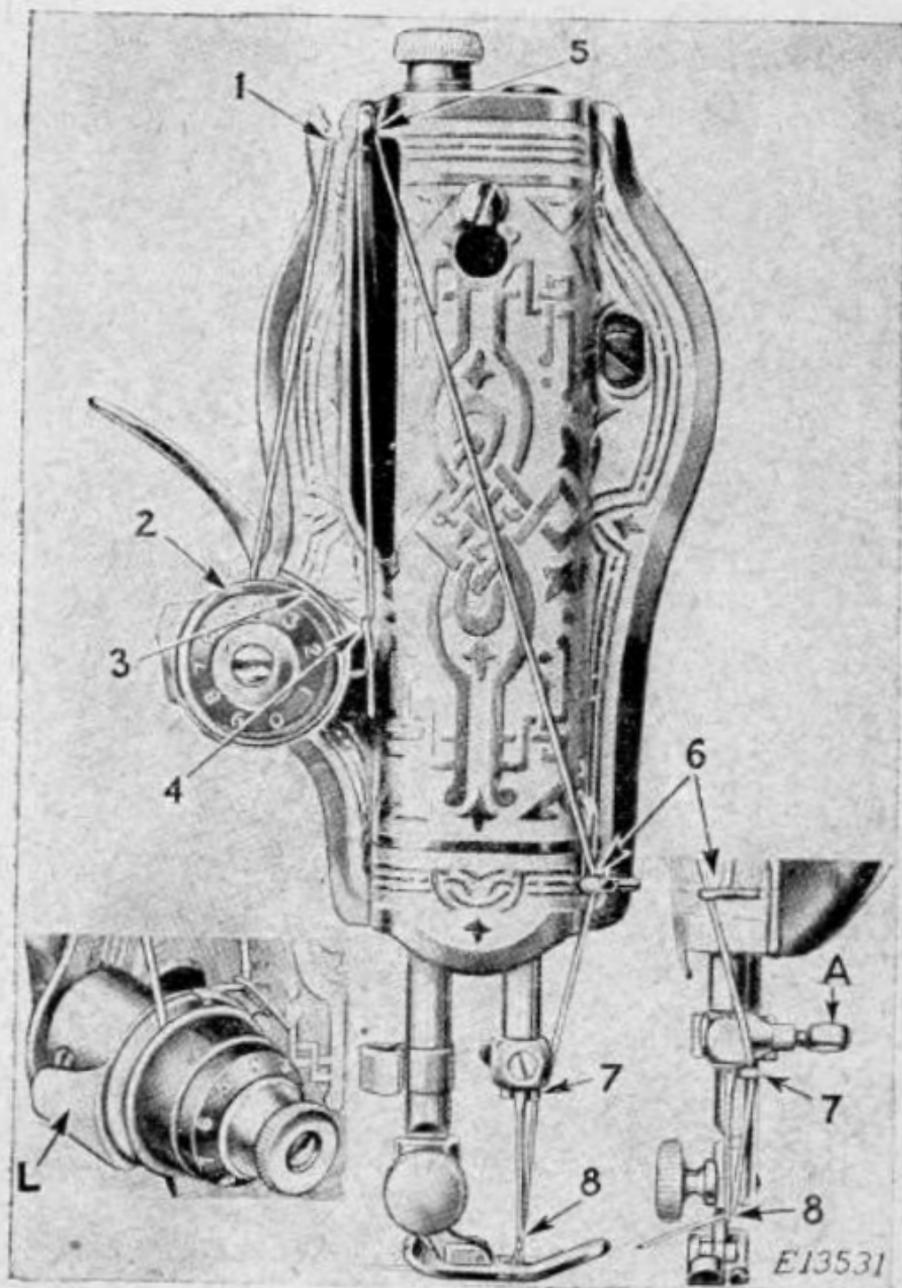
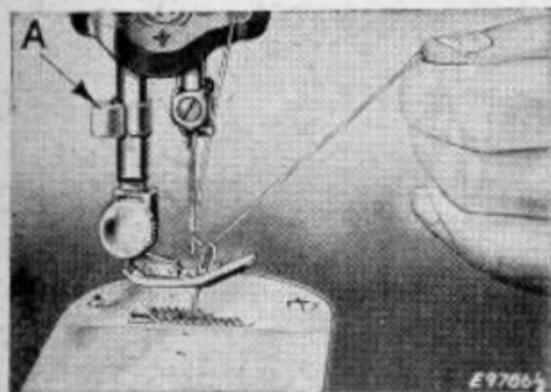
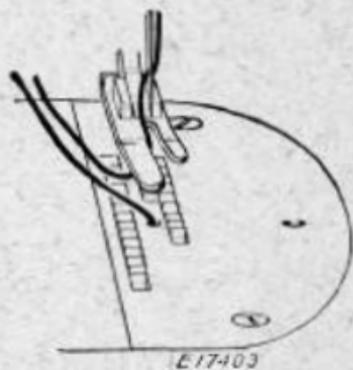

FIG. 12. UPPER THREADING
FIG. 13. DRAWING UP BOBBIN THREAD
FIG. 13A. THREADS IN POSITION TO COMMENCE SEWING
Turn the balance wheel over toward you until the thread take-up lever (5, Fig. 12) is raised to
(SEE FIG. 12)
Turn the balance wheel over toward you until the thread take-up lever (5) is raised to its highest position. Place the spool of thread on the spool pin at the top of the machine and pass the thread to the left through the thread guide (1) at the rear of the face plate, down, under and from back to front between the tension discs (2), the thread guard (L) guiding the thread between the discs. (See insert in Fig. 12). With the right hand hold the spool to prevent it from turning, and with the left hand draw the thread up into the take-up spring (4) until the thread enters the retaining fork (3), then pass the thread up and from back to front through the hole in the thread take-up lever (5), down through the guide (6) on the face plate, into the guide (7) on the needle clamp and from **right to left** through the eye (8) of the needle.
Turn the balance wheel over toward you until the needle moves down and up again to its highest position, thus catching the bobbin thread. Draw up the needle thread and the bobbin thread will come up with it through the hole in the throat plate, as shown in Fig. 13. Lay both threads back under the presser foot diagonally across the feed, as shown in Fig. 13A, to the right or left, depending upon which side of the needle the material is to be located, so that when the presser foot is lowered, the threads will be firmly held between the feed and the presser foot.
Stop the machine with the thread take-up lever (5, Fig. 12) at its highest position, raise the presser foot and draw the fabric back and to the left, pass the threads over the thread cutter (A, Fig. 13) and pull down lightly to sever them. Leave the ends of the threads under the presser foot.